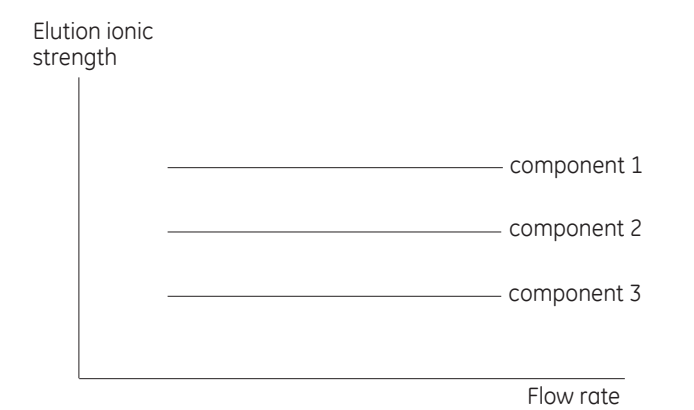

Fig 1.
1. Best separating pH and buffer system for the sample can be determined by scouting on Mono S 5/50 GL. High flow rates (up to 2 mL/min) and small gradient volumes (20 mL) may be used to save time. The elution ionic strength for each separated component is independent of the flow rate (Fig. 1, on page 3).